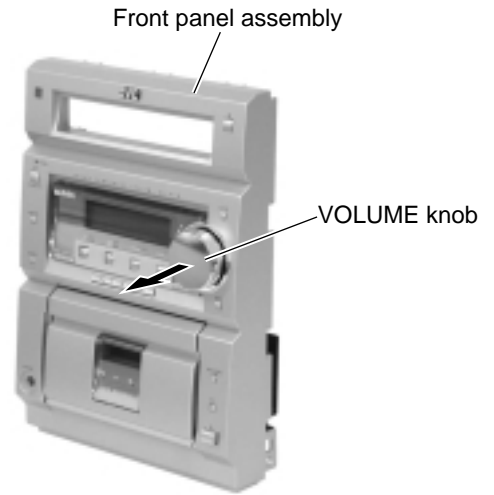

Fig.26
**■ Removing the display board / switch board (See Fig.26 to 28)**